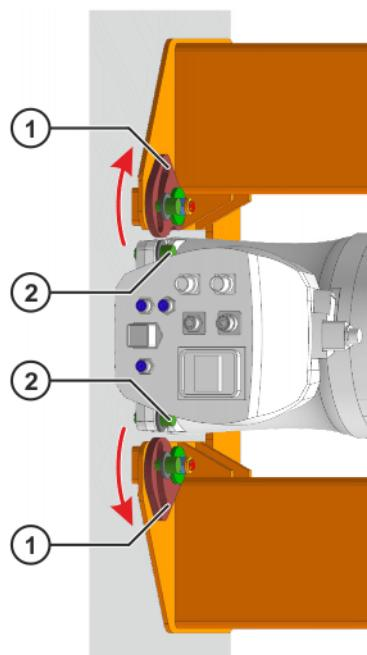

Fig. 8-7: Rotating the swivel holders outwards
16. Rotate the swivel holders outwards (**>>> Fig. 8-7**).